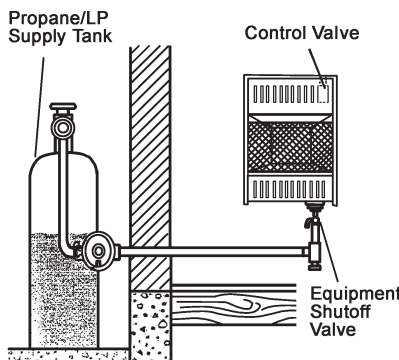

Figure 15-Checking Gas Joints
4. Check all joints from equipment shutoff valve to control valve (see Figure 15). Apply mixture of liquid soap and water to gas joints. Bubbles forming show a leak.